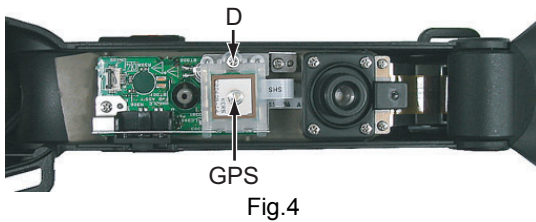

Fig.4
3.4.2 Removing the GPS and HANDLE board (See Figure 4, 5 and 6)